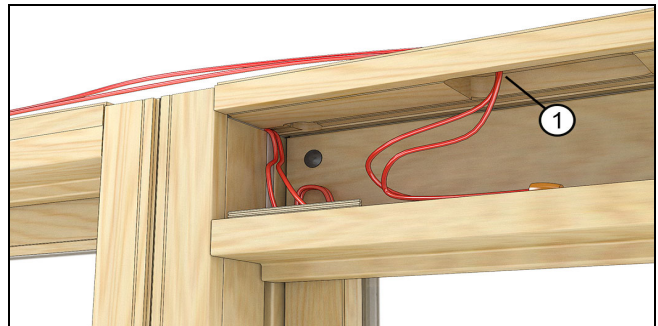

Figure 16
2. Fish wire through the factory provided 1/4" hole located in the transmitter pocket recess in the head jamb. See Figure 16.